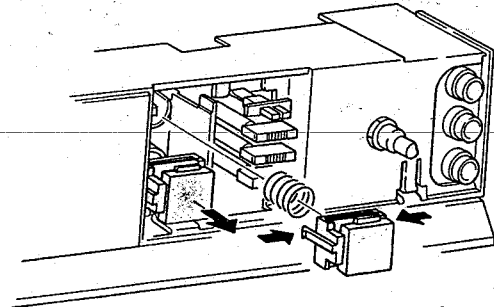

Fig. 9
6) Pull the Dolby B/C NR button toward you while pressing the tab of the POWER button. (See figure 9)